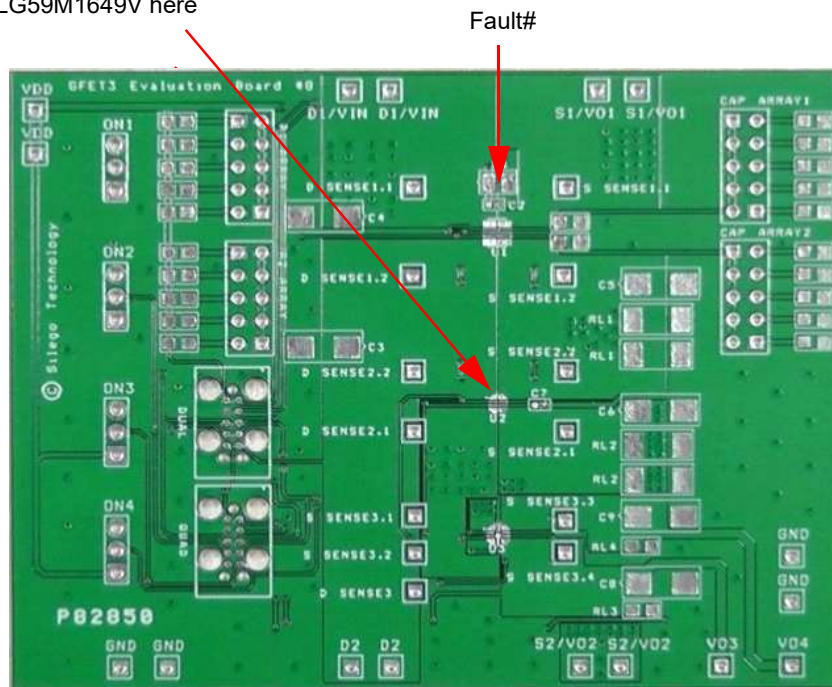

Figure 1. SLG59M1649V Evaluation Board.
1. Since the VIN and VOUT pins dissipate most of the heat generated during high-load current operation, it is highly recommended to make power traces as short, direct, and wide as possible. A good practice is to make power traces with absolute minimum widths of 15 mils (0.381 mm) per Ampere. A representative layout, shown in Figure 1, illustrates proper techniques for heat to transfer as efficiently as possible out of the device;
A GreenFET Evaluation Board for SLG59M1649V is designed according to the statements above and is illustrated on Figure 1. Please note that evaluation board has D_Sense and S_Sense pads. They cannot carry high currents and dedicated only for $R_{DS(ON)}$ evaluation.